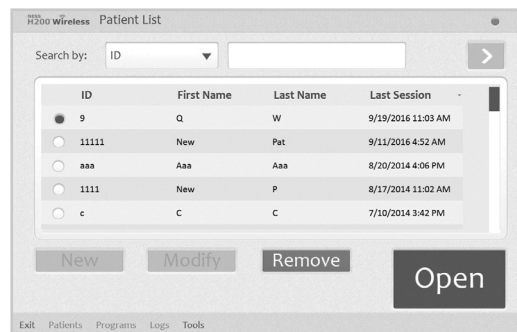

Figure 8-8: Patient List Window
3. The Patient List window will open. See Figure 8-8.